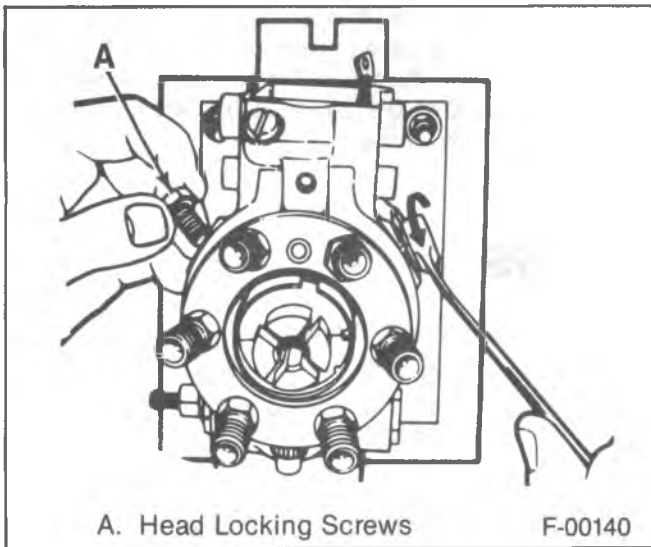

Figure 29—Head Locking Screws
8. Head locking screws (figure 29).
3. Head locking screws loosely (figure 29).